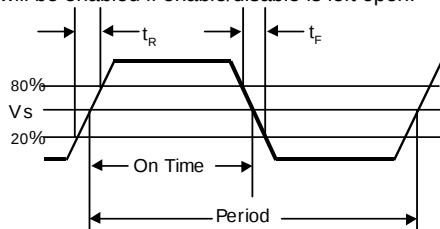

Figure 5. Output Waveform
2. Figure 5 defines these parameters. Figure 6 illustrates the operating conditions under which these parameters are tested and specified.